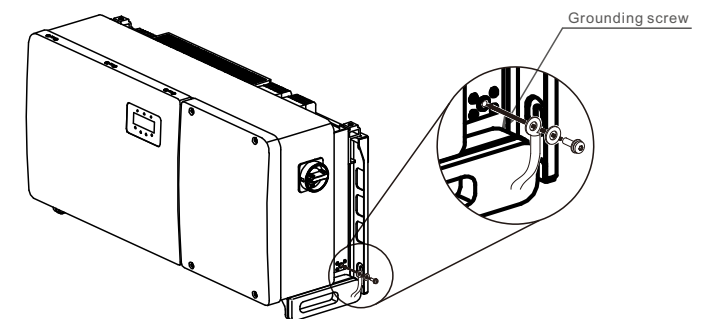

Figure 3.17 Fixed cable
- 6) Connect the grounding cable to the grounding point on the heat sink, and tighten the grounding screw, Torque is 7.4-8.9 ft.lbs(see figure 3.17).